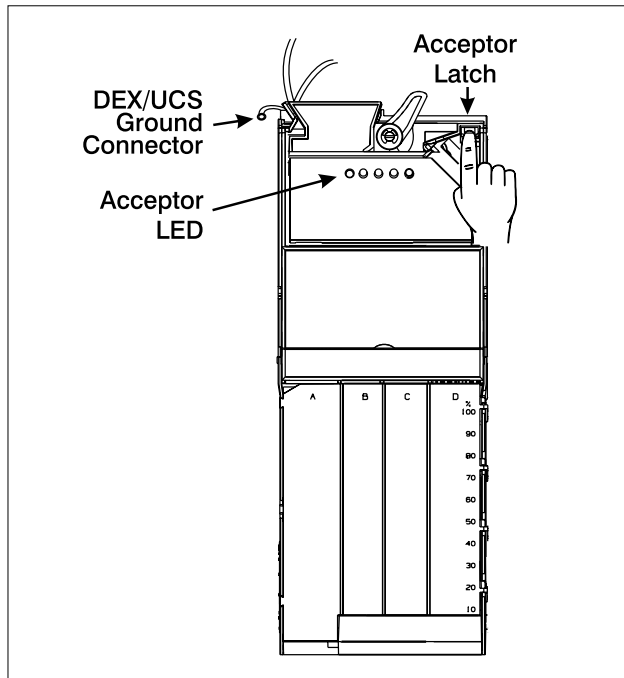

Figure 1
2. Remove the acceptor from the changer by pressing down on the acceptor latch, releasing the acceptor. Rotate the top of the acceptor forward, away from the changer (see figures 1 and 2). Unplug the ribbon cable from changer. Free the lower acceptor studs from the changer housing. Place the acceptor in a clean area.
5. On Single-Price units using the DEX/UCS Hand-Held Computer, attach the DEX plug ground connector to the vending machine frame (see figure 1).